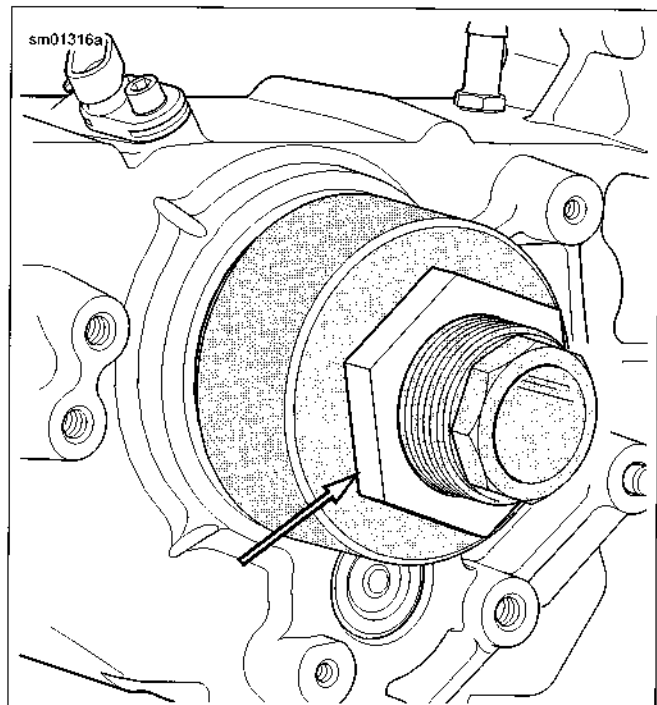

Figure 5-58. Install Nut)
7. See Figure 5-58. Thread LARGE NUT (Part No. HD-47856-5) onto end of adapter, until it tightens against installer.